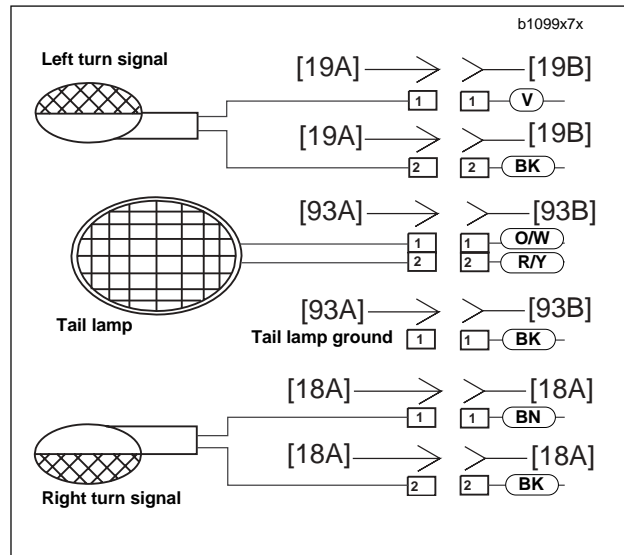

Figure 7-53. Rear Turn Signal Connections
3. Attach bullet connectors on turn signal wires as shown in Figure 7-53.
1. See Figure 7-53. Insert bullet connectors through center tail section.
4. Attach bullet connectors on turn signal wires as shown in Figure 7-53.